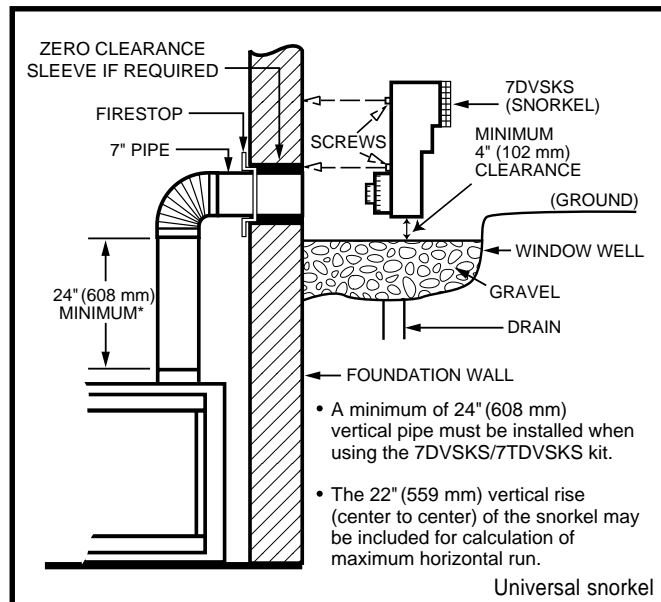

Fig. 29 Below grade installation
7. Level the soil so as to maintain a 4 in. (102 mm) clearance below snorkel (Fig. 29).